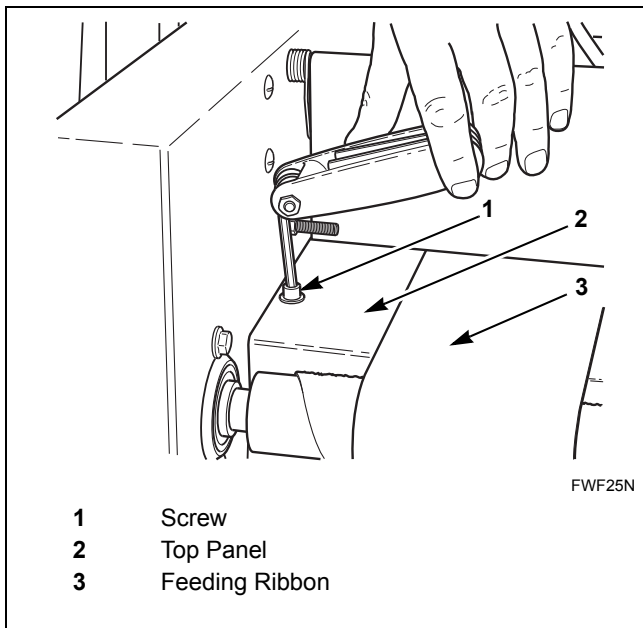

Figure 31
- Remove screw from left side of top panel (behind feeding roller). Refer to *Figure 31*.